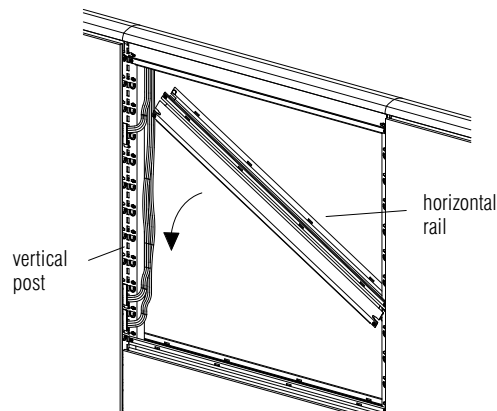

Figure 84
2. Horizontals are added by positioning the horizontal at any angle between vertical posts and sliding one end around a vertical at the desired height. Then, rotate the horizontal downward, centering with the rivets above the pocket on the post. When all rivets are properly aligned, tap the horizontal into place with a mallet. **Figure 84.**